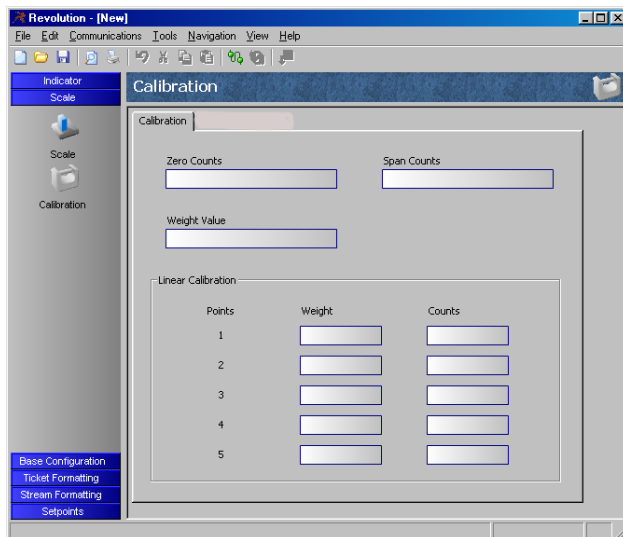

Figure 4-2. Revolution Calibration Display
4. Revolution uploads calibration data from the indicator then presents the information in a display like that shown in Figure 4-2.